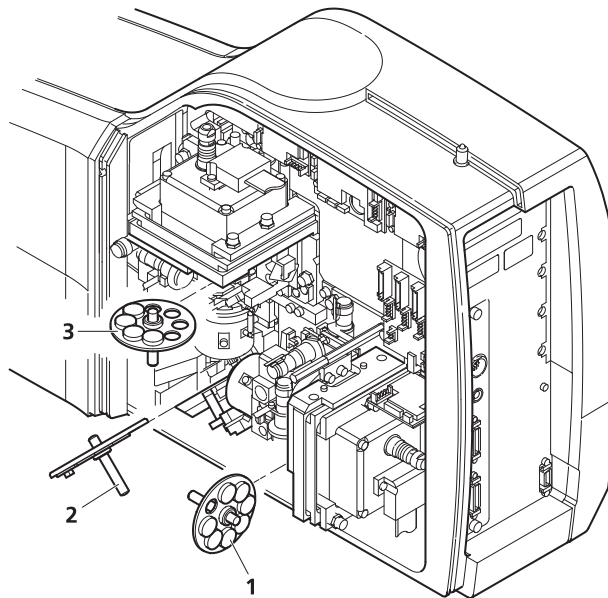

Fig. 7-4 Change-over of the filter-wheels
- Pull the filter-wheels carefully out of the appropriate guide well, see Fig. 7-4: